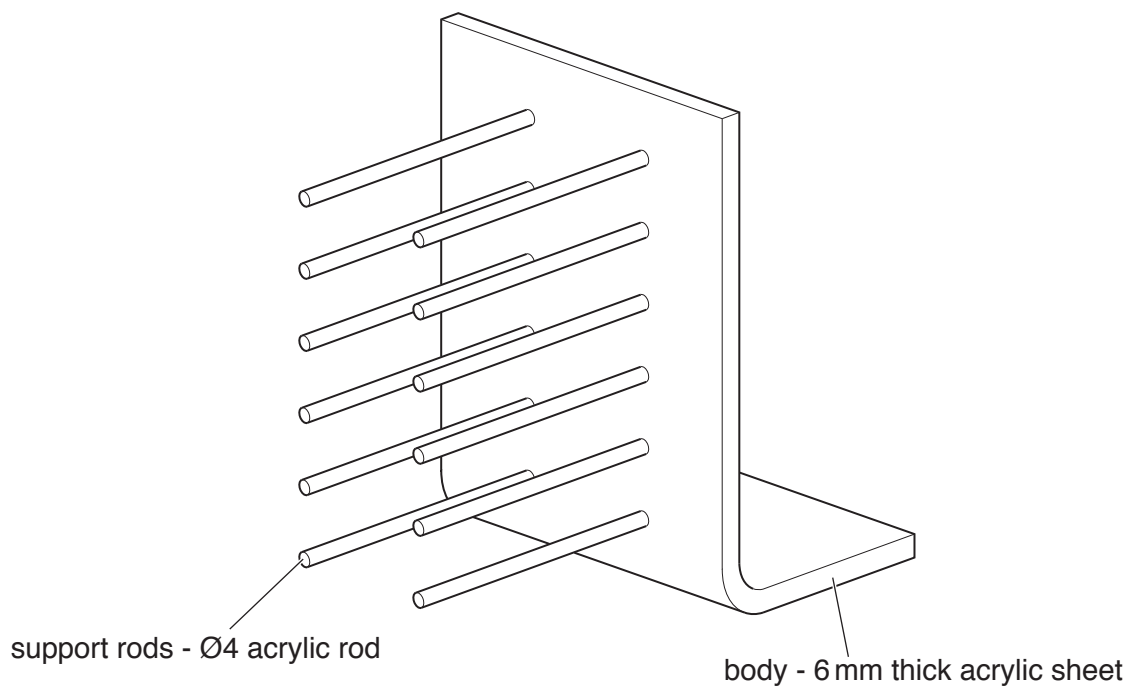

Fig. 6
19 Fig. 6 shows a rack for DVDs and computer games. The rack is made from acrylic.
- (b) The rack shown in Fig. 6 is found to be unstable when used.